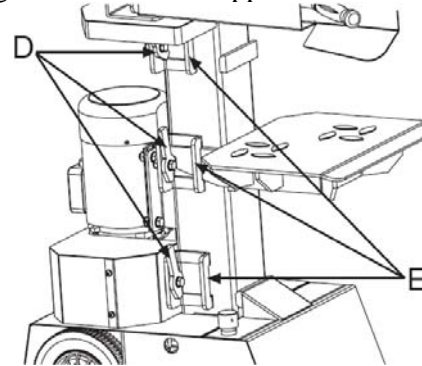

Fig.7
2. There are 3 installation positions (fig.7) available for the Support Table for different splitting length.